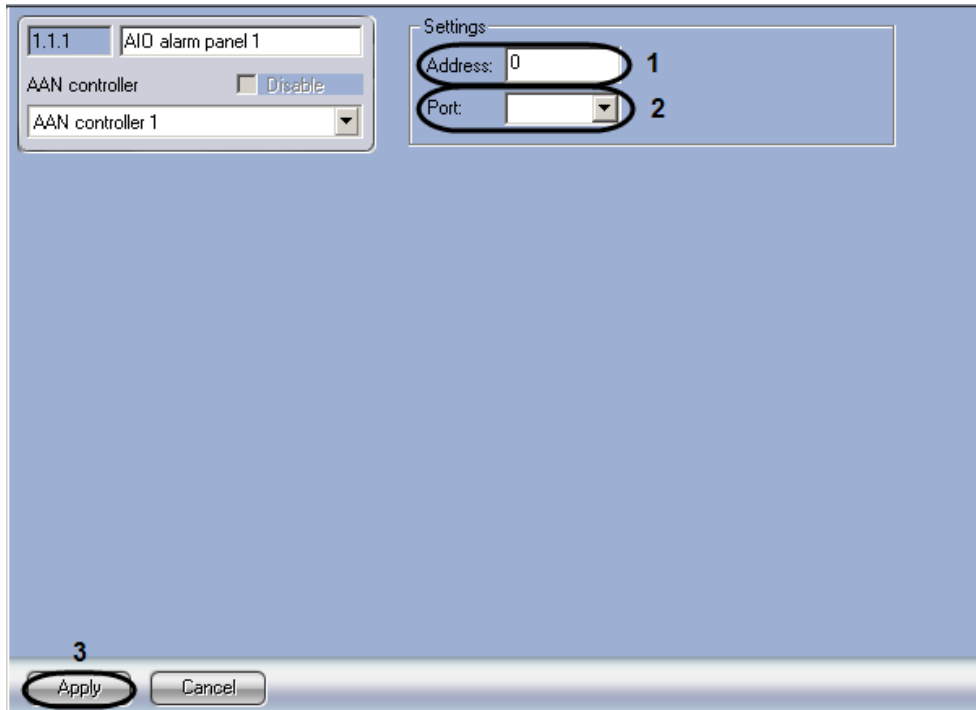

Fig.3.3-4 Settings pane of an AIO Alarm Panel object
1. Go to the **AIO Alarm Panel** object's settings panel (Fig.3.3-4).
2. In the **Address** field, enter the AIO alarm panel's unique address (see Fig.3.3-4, 1).
3. Select the port used to connect to the AIO alarm panel from the **Port** dropdown list (see Fig.3.3-4, 2).
4. To save changes, click the **Apply** button (see Fig.3.3-4, 3).